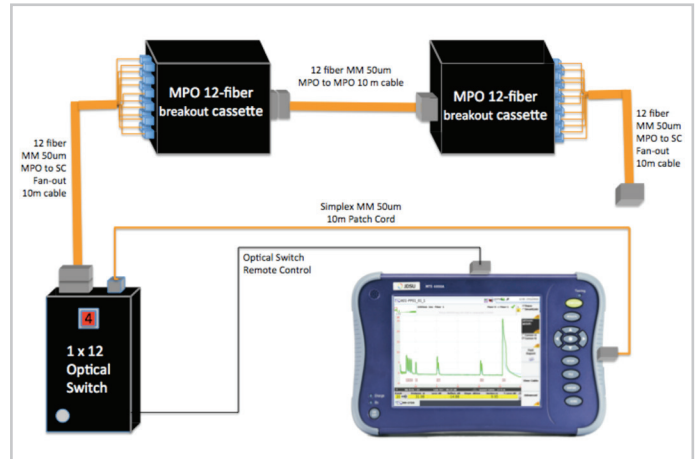

Figure 7. Test setup for Hi-Res link testing with breakout cassettes
- b. The EVO-A modules from VIAVI offer integrated EF-compliance for T-BERD/MTS-8000 (v2) and -6000A v2 platforms. This eliminates the need for an external EF mode conditioner, which simplifies implementation by test technicians and ensures improvements in loss accuracies that EF compliance provides (see Figure 7 later in this document).